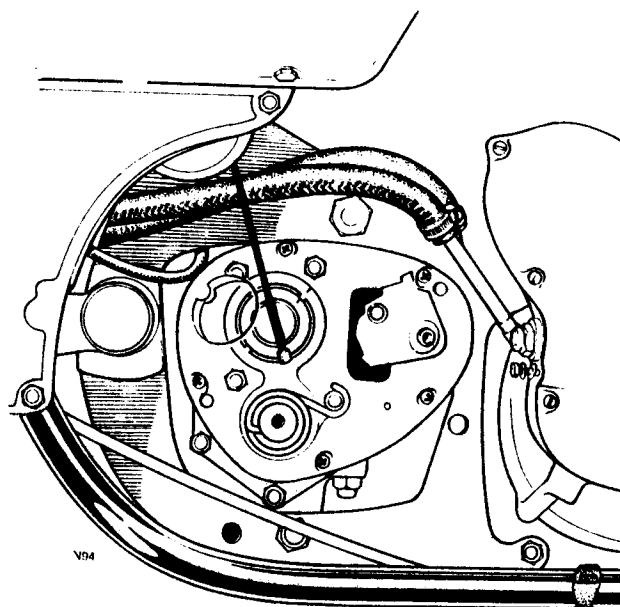

Fig. D6 Kickstart spring located. Note alignment of clutch body to permit straight pull on clutch cable and operating lever
- 3 Assemble the kickstart return spring, aligning the outboard end of the spring with the mating hole in the spindle and sliding the spring down until the spring engages in the hole. Wind the spring as illustrated in *Fig. D6* to tension and engage on the spring anchor pin.
- 10 Tighten the operating lever body ring until the body is fully engaged and finally tighten the lock ring to bring the body slot directly into line with the marks previously applied to the boss in the cover. *Fig. D6* illustrates the alignment procedure during tightening of the lock ring. If a new cover is being fitted and no alignment marks are present, hold the body in the position where the clutch cable can exert a straight pull, as the lockring is tightened.